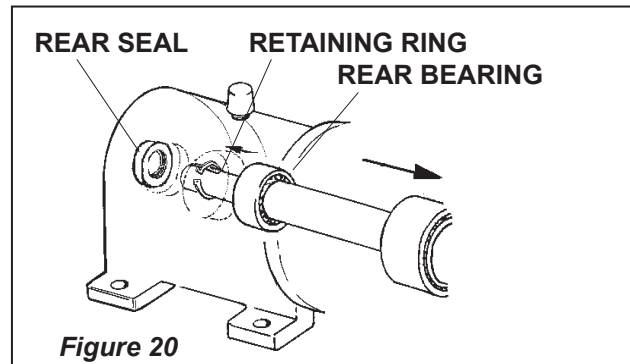

Figure 20
#### Rear Seal Replacement (Figure 20)
1. Remove rear seal. Remove rear bearing retaining ring. Press drive shaft out through front of gear case (through rear bearing). (Figure 20)
3. Press the rear bearing out of the front of gear case. (Fig. 20)